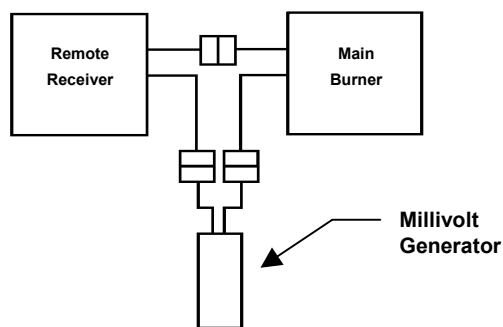
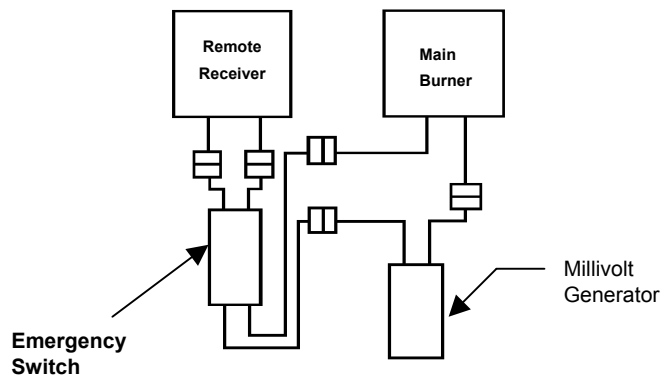

Figure 1
Figure 2
3. Connect the wires labeled "Main Valve" to the Millivolt generator and Millivolt valve (see Fig.1) or the Emergency Switch (Fig.2). Switch the Emergency Switch to OFF position if it is installed. Use the Emergency Switch only during a power failure.